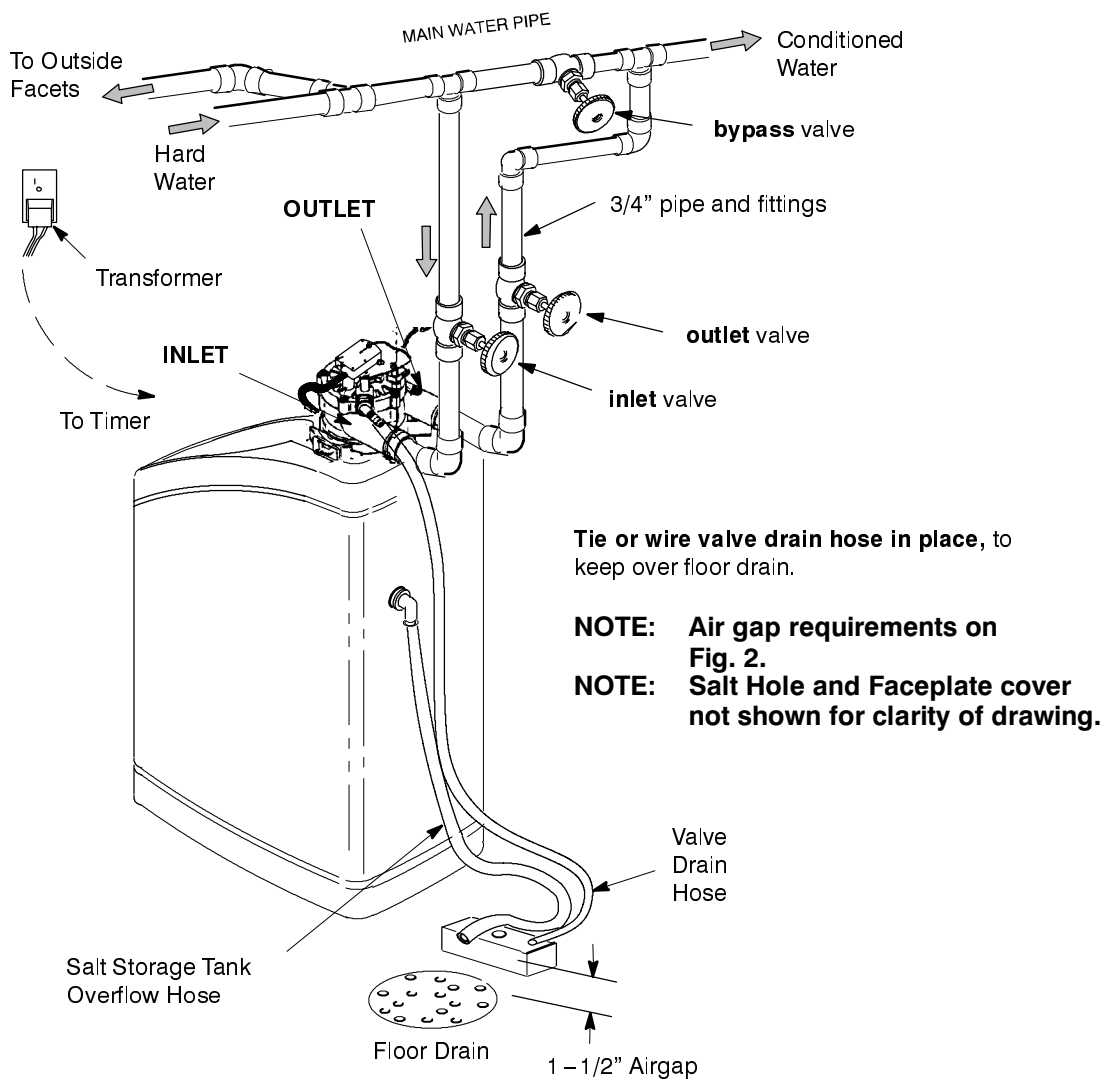

Figure 2
WARNING: The house cold water pipe (metal only) is often used as a ground for the house electrical system. The 3-valve bypass type of installation, shown in Figure. 2, will maintain ground continuity. If you use a plastic bypass valve at the unit, continuity is broken. To restore the ground, do the following.
2. Run the hose to the floor drain, and as typically shown in Figure 2, tie or wire the end to a brick or other heavy object. This will prevent "whipping" during regenerations. **Be sure to provide a 1-1/2" minimum air gap, to prevent possible sewer water backup.**
1. Connect a length of 3/8" I. D. hose to the salt storage tank overflow elbow and secure in place with a hose clamp (see Figure 2).